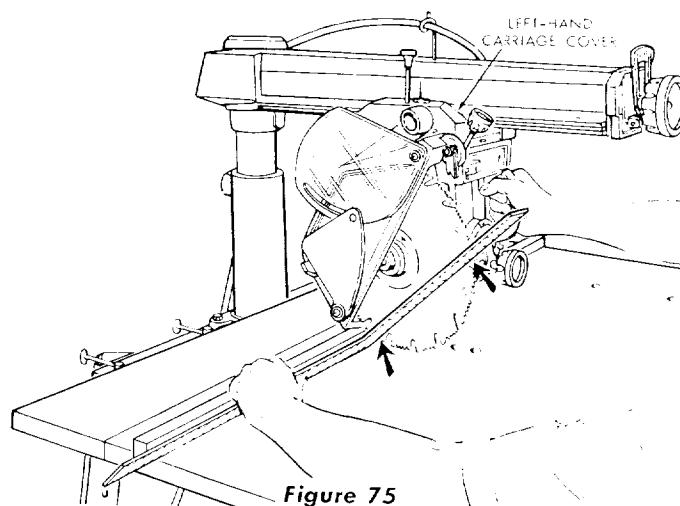

Figure 75
- (1) Loosen the guard clamp knob and tilt the guard upward at the front to expose the saw blade, as shown in figure 75.
(2) Place a square against the rip fence and the saw blade as shown in figure 75. The long leg of the square must be held firmly against the rip fence and table top and the short leg must not touch any of the teeth on the saw blade.
(3) If the square does not touch the hollow-ground blade at points shown in figure 75, a heel condition exists (either to the left or right). To correct the condition, proceed as follows:
(a) Remove the left-hand carriage cover (figure 75).